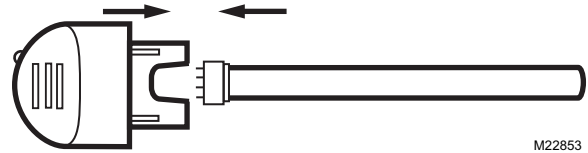

Fig. 17. Replace lamp glass in SnapLamp™ handle.
- Insert the new lamp glass into the SnapLamp™ handle by aligning the notch and pushing straight together. See Fig. 17.